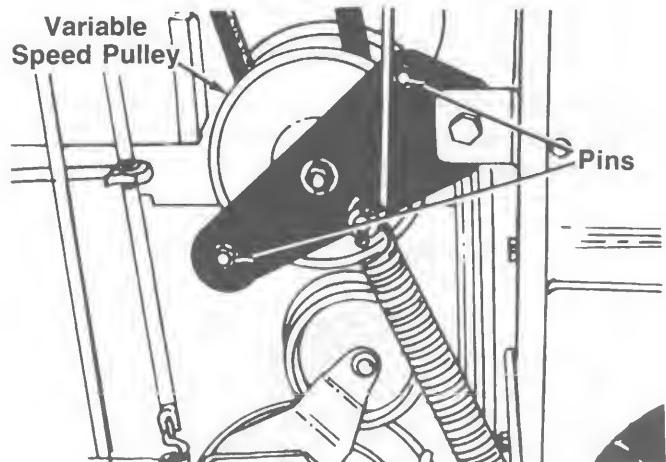

FIGURE 29.—Model 784G
- Move the variable speed pulley as necessary in order to remove the belt. See figure 29.
NOTE: When reassembling, make certain belt is inside the pins as shown in figure 29.